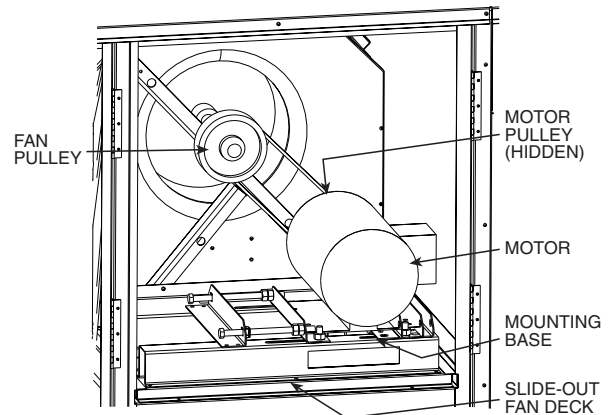

Fig. 19 — Evaporator-Fan Motor Adjustment
3. Remove three no. 10 screws at front of slide-out fan deck. Save screws. See Fig. 19.
Evaporator Fan Performance Adjustment (Fig. 19 and 20) — Fan motor pulleys are factory set for speed shown in Table 56.
4. Move motor mounting plate to adjust to proper belt tension. See Table 68. Motor adjuster bolts may be used to tighten belts. See Fig. 19.